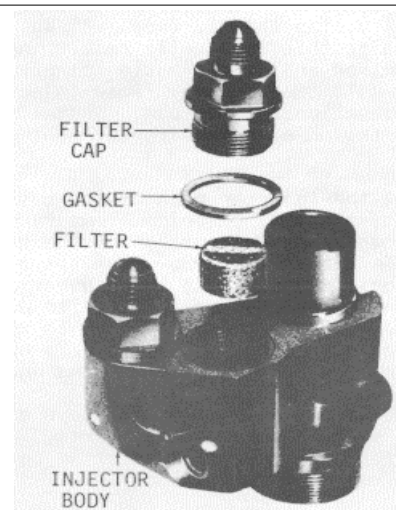

Fig. 36
- (1) Insert a new filter, dimple end down, slotted end up, in each of the fuel cavities in the top of the injector body (Fig. 36).